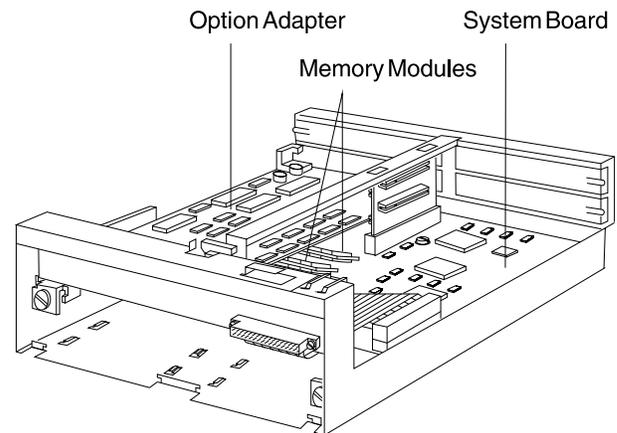
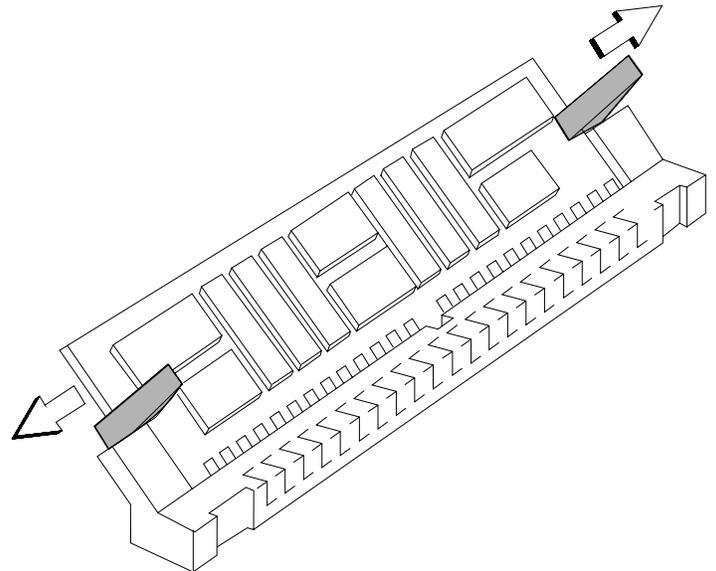

Figure 3-4. Memory Module Location
Figure 3-5. Removing Memory Modules
3. There are two memory module connectors. If you are leaving the current module in the system board and adding an additional module, continue at step 4. If you are exchanging the existing memory modules with new modules, remove them by pushing the module retainers outward simultaneously until the module is released. Lift the module from the connector. See Figure 3-4 and Figure 3-5.